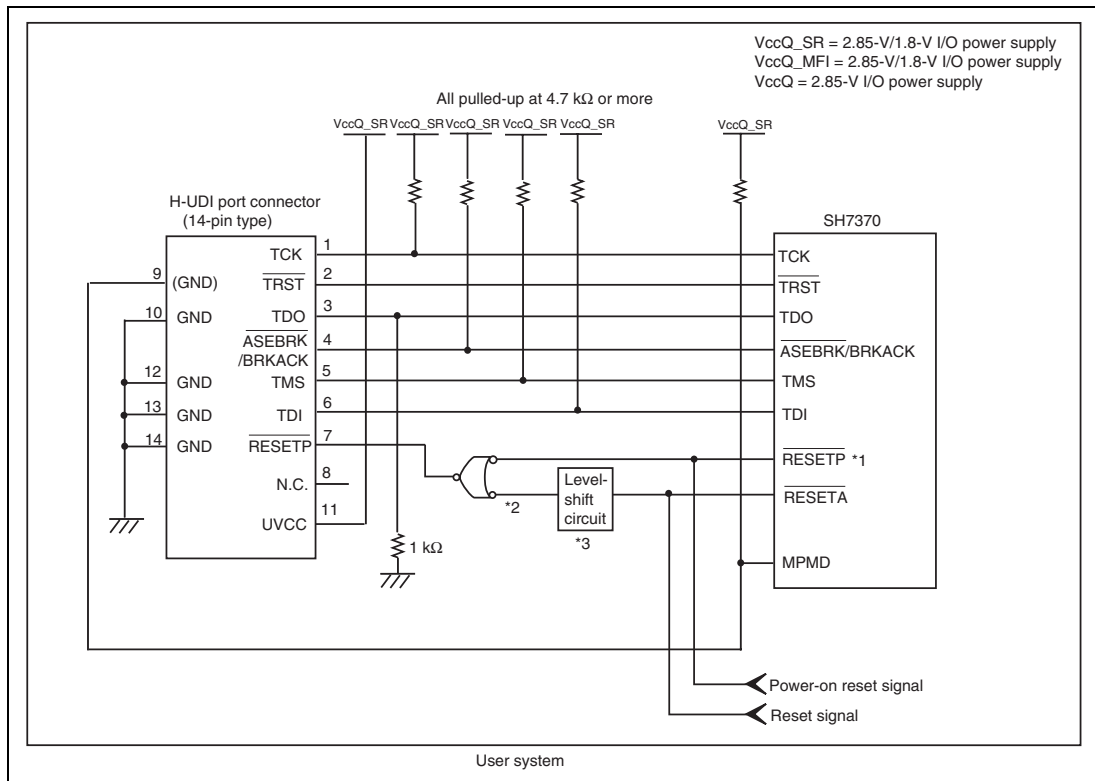

Figure 1.6 Recommended Circuit for Connection between the H-UDI Port Connector and MPU when the Emulator is in Use (14-Pin Type)
5. Connect /RESETP and /RESETA to the user system if required, as shown in figure 1.6.
Figure 1.6 shows a recommended circuit for connection between the H-UDI port connector (14 pins) and the MPU when the emulator is in use.
- (1) When the emulator is used: $MPMD = 0$
- (2) When the emulator is not used: $MPMD = 1$Figure 1.6 shows an example of circuits that allow the MPMD pin to be GND (0) whenever the emulator is connected by using the user system interface cable.
7. The resistance values shown in figure 1.6 are for reference.
When the circuit is connected as shown in figure 1.6, the switches of the emulator are set as SW2 = 1 and SW3 = 1. For details, refer to section 3.8, Setting the DIP Switches, in the SuperH™ Family E10A-USB Emulator User's Manual.